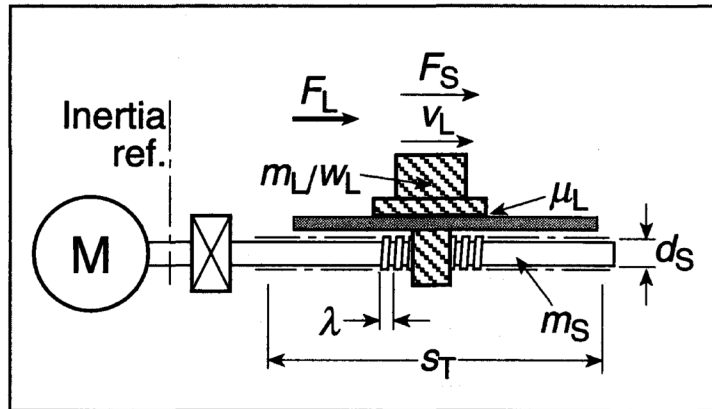

Figure Q4.
- a) Describe the construction, operation and characteristics of series wound and permanent magnet (PM) DC motors. Include labelled diagrams showing the motor's equivalent electrical circuit and speed vs torque graphs. Include discussion of the load/speed and starting torque characteristics for these motors. [16 marks]
4. A linear positioning system is designed around a horizontally orientated feed screw arrangement, as shown in figure Q4. The system must accelerate, travel at a maximum speed of 0.5m in 50s and then decelerate to stop. Assume the motor is operating at maximum torque when accelerating.